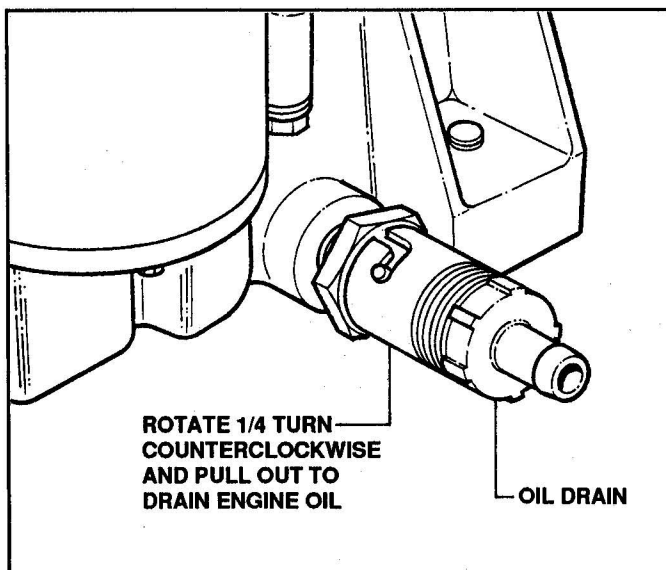

FIGURE 3.1
- (c) Place a 2 quart capacity container under the end of the oil drain. Turn and pull drain to allow oil to drain into container. See Figure 3.1.